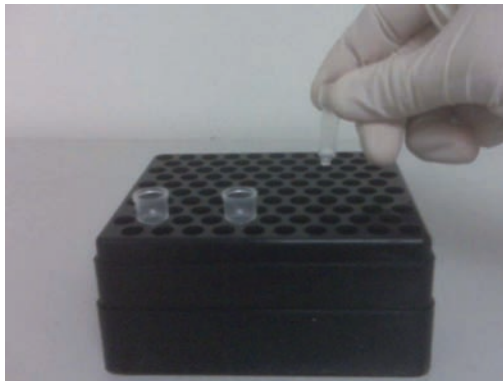

Figure 3: Using the ChIP Filtration Columns.
9. Label a ChIP Filtration Column for each ChIP reaction. Remove the tab from the bottom of the column and place in an empty 1 ml pipet tip box as a holder (see Figure 3 below).